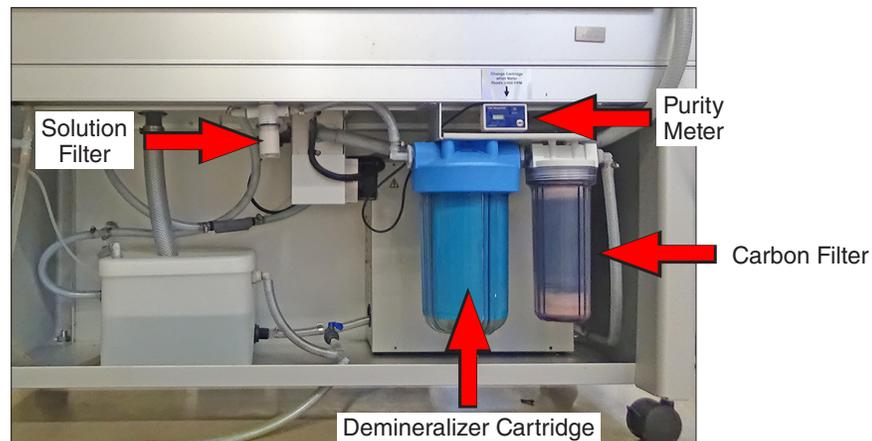

Figure 16.5a: QUV with integrated repurification system.
- Inspect the solution filter every 6 months (Figure 16.5a).
- The water purity meter (Figure 16.5a) should be checked once a month, and when the Total Dissolved Solids are greater than 1 ppm the demineralizer cartridge should be replaced with part number V-4979.